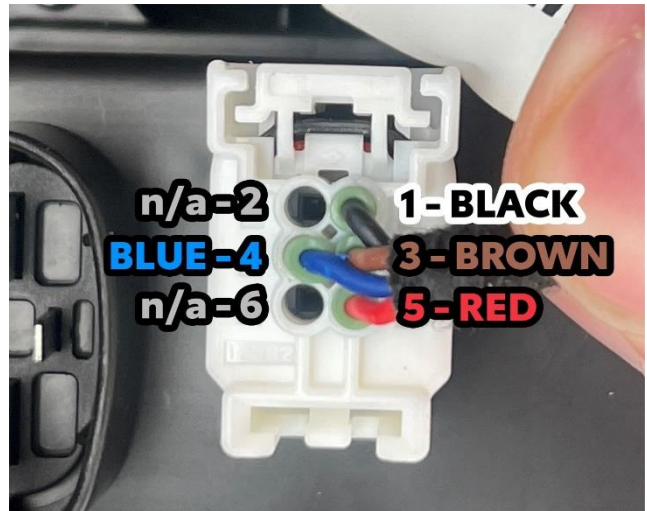

Figure 6 – Wires Correctly Inserted
14. Insert the removed wires in the following connector cavities (Figure 6).